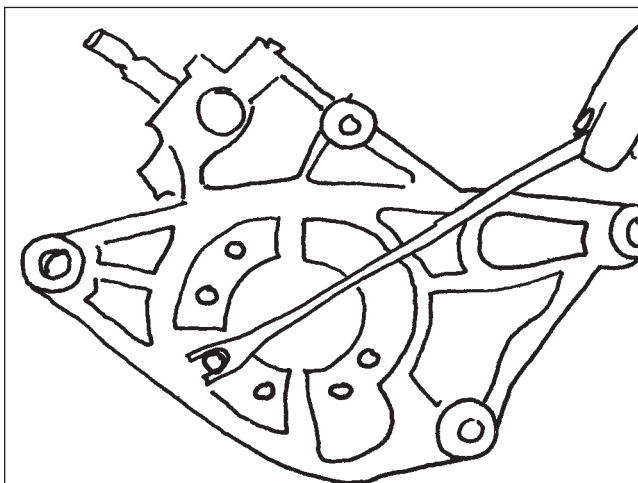

Figure 85
2. Remove the mounting bracket bolts and separate the mounting bracket from the steering gear (if equipped) (Figure 85).